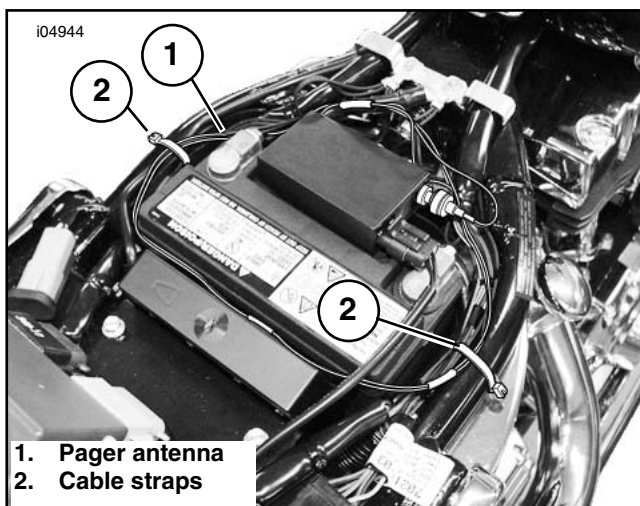

Figure 11. Route Pager Antenna
15. Install the pager transmitter (1) onto the battery (2).
16. See Figure 11. Route the pager antenna around the battery as shown. Secure the antenna to the frame tubes using cable straps.